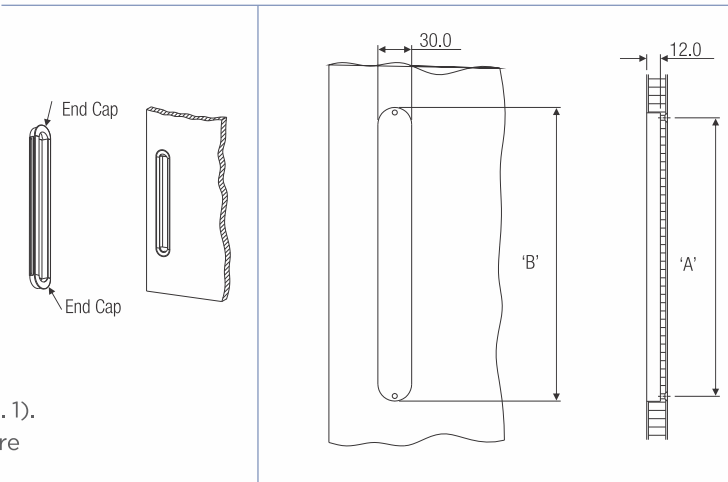

Fig.1
1. Use Ø30 mm routing cutter upto 12 mm deep (Fig. 1).